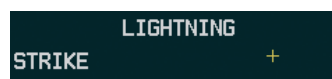

Figure 6-19 Lightning Legend
- 1) Press the **MAP** Softkey (for the PFD Inset Map, press the **INSET** Softkey). This step is not necessary on the Weather Data Link (XM) Page.
- 2) Press the **XM LTNG** Softkey (**LTNG** Softkey on the Weather Data Link (XM) Page).
To display the SiriusXM Lightning legend on the Weather Data Link (XM) Page (Figure 6-19), press the **LEGEND** Softkey when SiriusXM Lightning is selected for display.